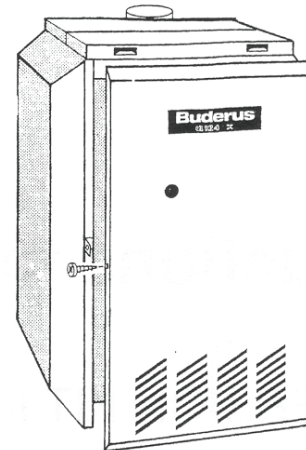

Fig. 1
1. Remove Control Access Panel from the boiler, fig 1.